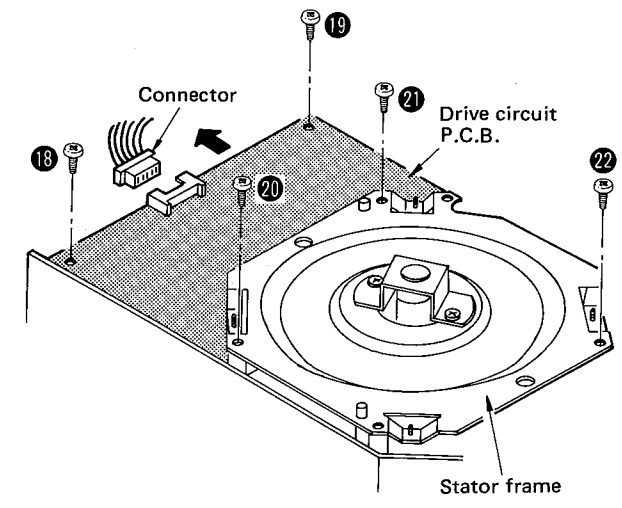

Fig. 6
2. Remove the 5 setscrews (Fig. 6 : 18 ~ 22) of the drive circuit P.C.B. and stator frame.